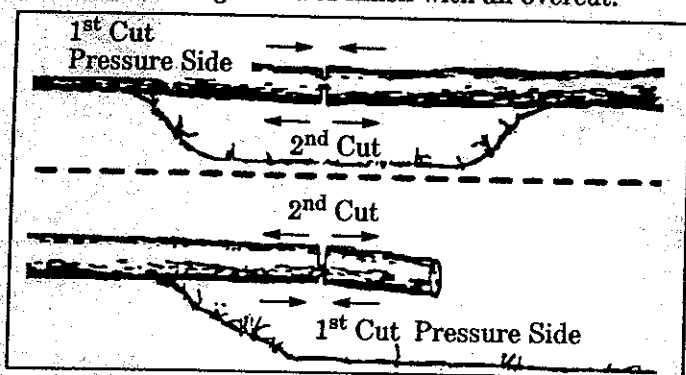

Figure 21
- Give special attention to logs under strain to prevent the saw from pinching. Make the first cut on the pressure side to relieve the stress on the log. Figure 21.